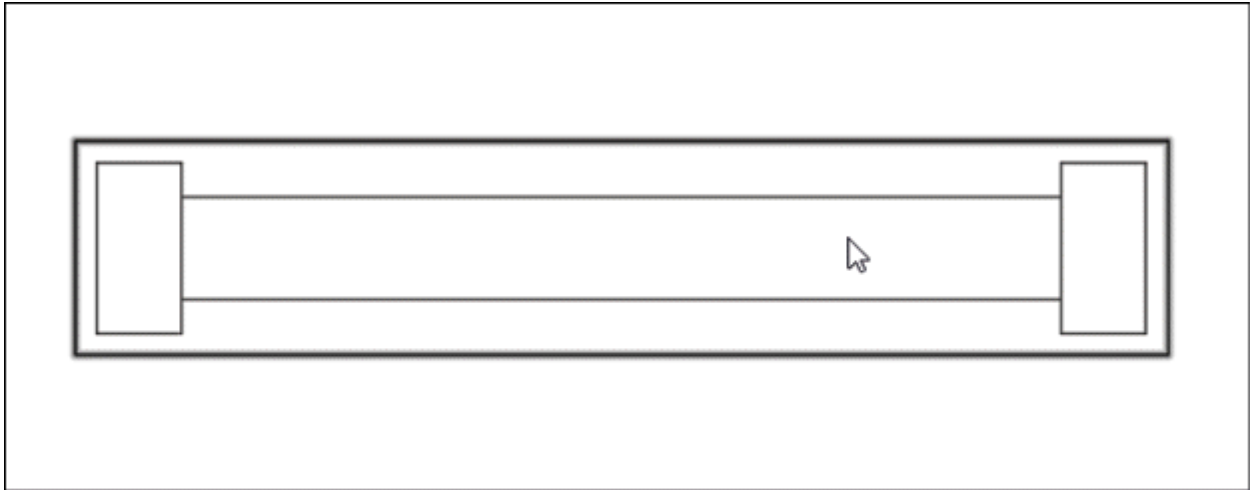

Figure-26. Selecting drawing view for broken view
- The **Select** button of **Drawing View** section is active by default. Select desired view from drawing sheet which you want to break; refer to Figure-26. You will be asked to select break position.